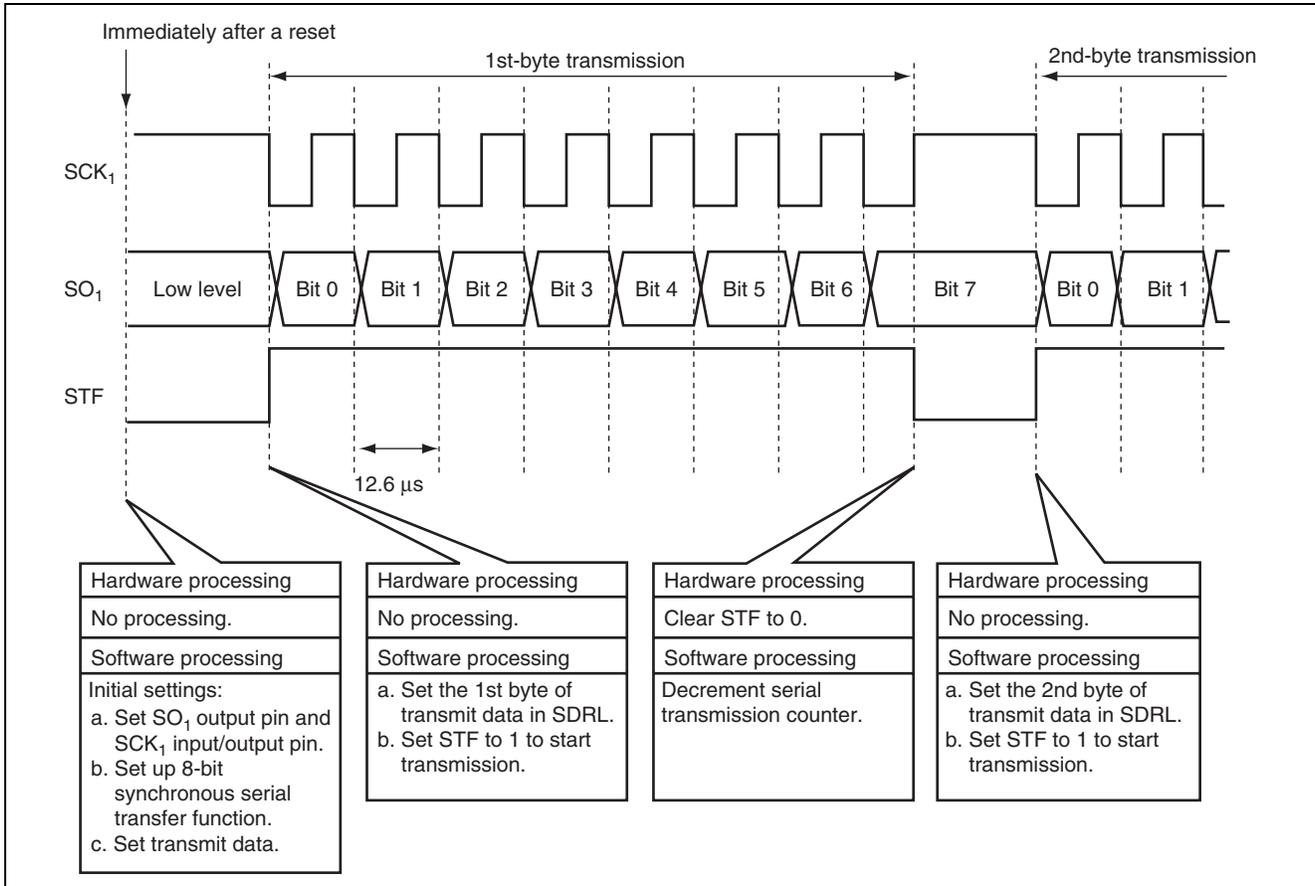

Figure 3.1 Operation Principle of Serial Data Transmission in Synchronous Mode
1. Figure 3.1 illustrates the principle of operation of this sample task. Serial data transmission is performed in synchronous mode with the hardware and software processing shown in the figure.